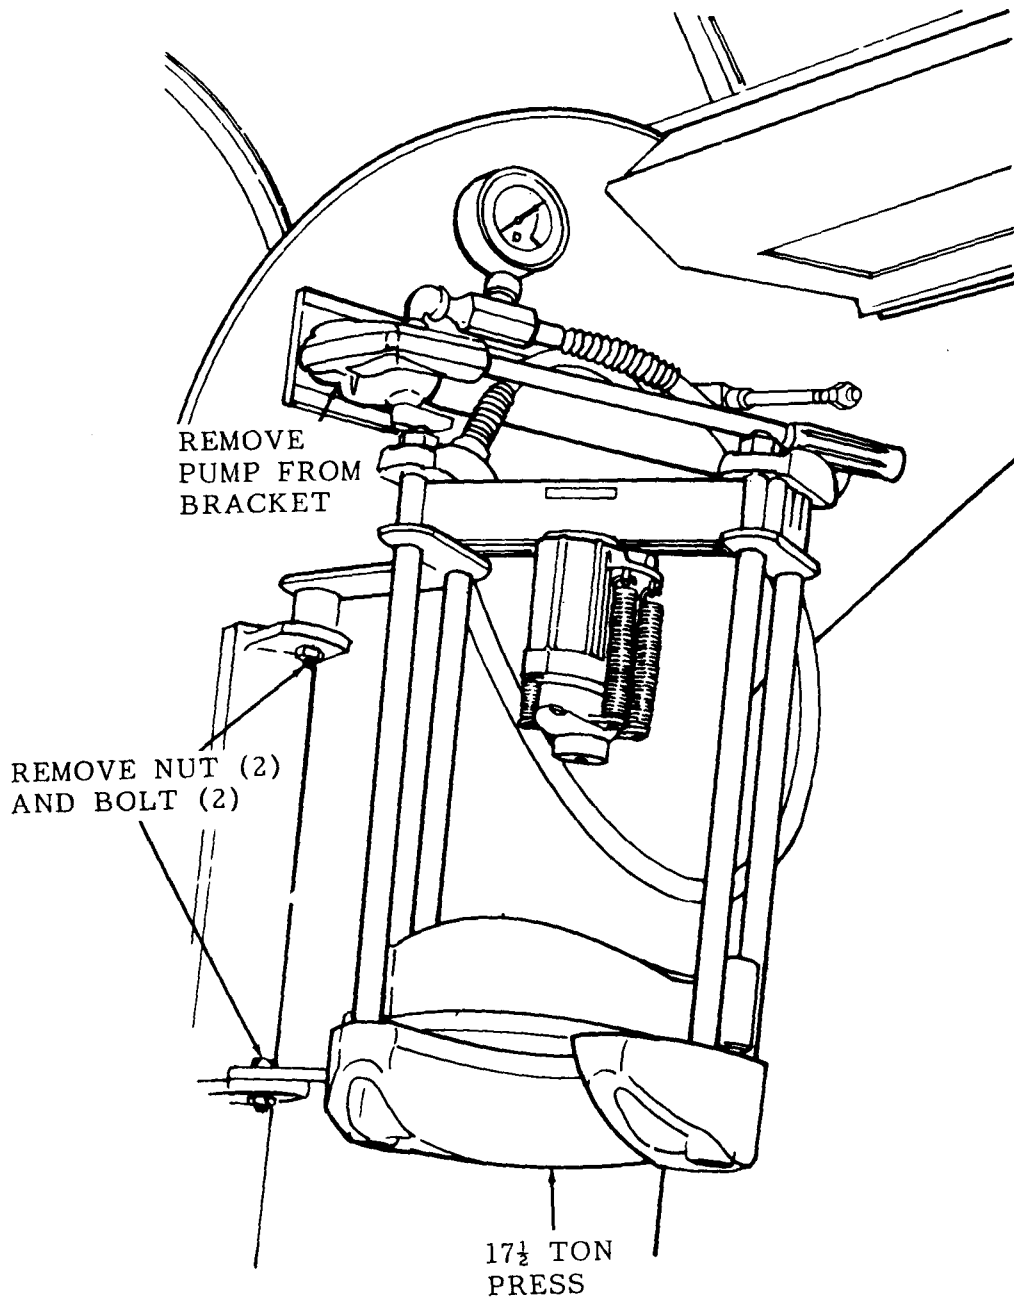

Figure 15-7. 17½-Ton Press Frame, Removal and Installation.
- a. Removal. Remove the press frame as illustrated in figure 15-7.
- b. Installation. Install the press frame as illustrated in figure 15-7.